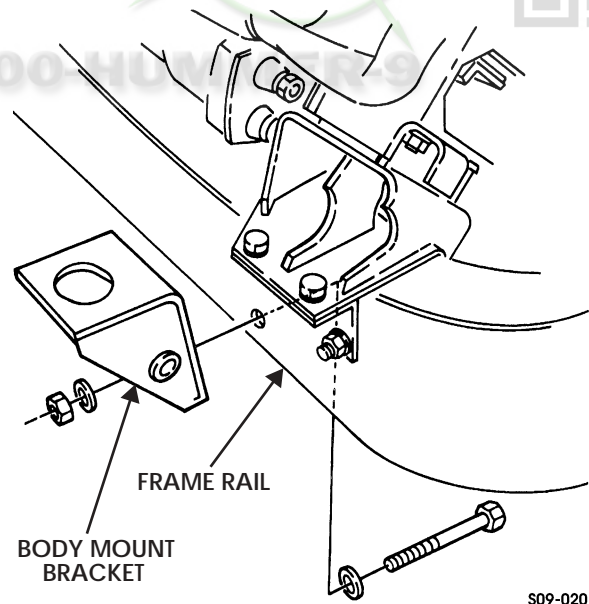

Figure 9-32: Right Front Body Mount Bracket
2. Remove three locknuts, washers, capscrews, washers, and right front body mount bracket from frame rail. Discard locknuts (Figure 9-32).
1. Install right front body mount bracket on frame rail with three washers, capscrews, washers, and locknuts. Tighten locknuts to 90 lb-ft (122 N•m) (Figure 9-32).